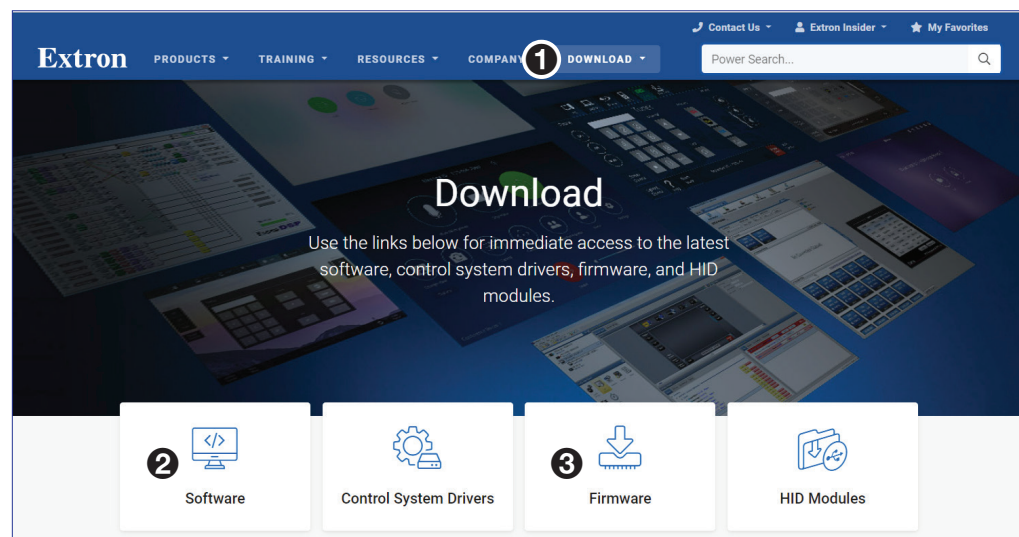

Figure 6. Software and Firmware Links on the Download Tab
1. Click the **DOWNLOAD** tab (see figure 6, **1**).
- If the software is not in **Recent Updates**, click the **Software** link (see figure 6, 2 on the previous page) or the **View All Software** link at the bottom of the page to open the **Download Center, Software** page.